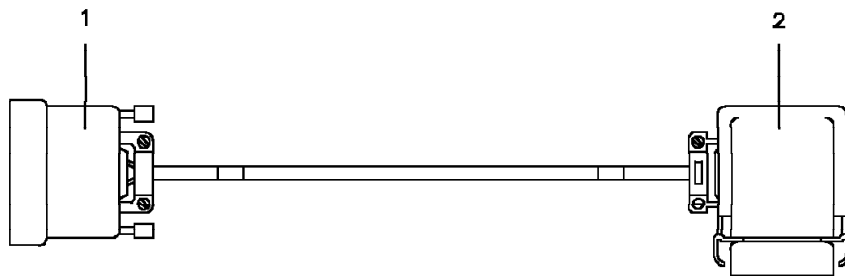

Figure 6-15. Adapter for ARC 3A1 or 3A2 (PN 58G5965)
- a. If you are connecting a **V.35 DCE (ARC 3A1 or 3A2)** to a **French modem**, connect one **adapter (PN 58G5965)** between the modem and the cable (see Figure 6-15). Connect **connector 1** to the  **cable** and **connector 2** to the **modem**.